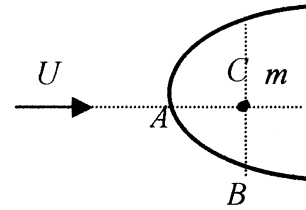

Fig. P8.27
**8.27** Water at 20°C flows past a half-body as shown in Fig. P8.27. Measured pressures at points A and B are 160 kPa and 90 kPa, respectively, with uncertainties of 3 kPa each. Estimate the stream velocity and its uncertainty.